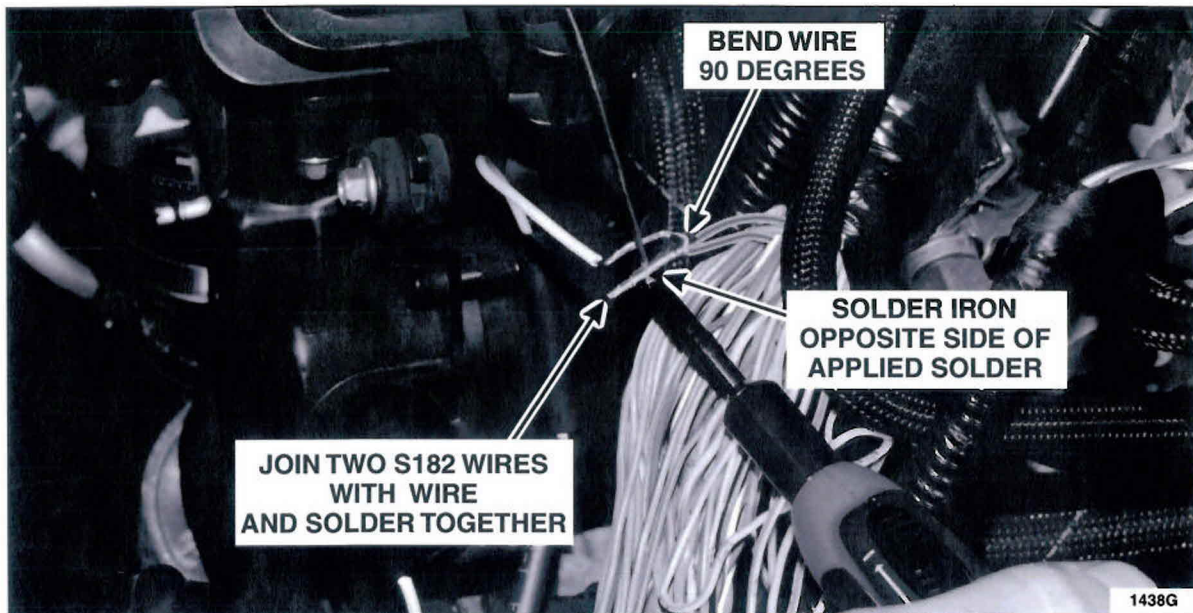

FIGURE 9
13. Join the two Gray/Brown wires on the engine side of the harness with one end of the previously prepared 40.6 cm (16 in) length of wire. Twist 13 mm (0.5 in.) of the ends of the wires together and bend the splice wire 90 degrees to the harness wire at the end of the twisted area. Solder the wires together using lead free electrical solder, with the heat being applied opposite of the applied solder. See Figures 9 and 10.